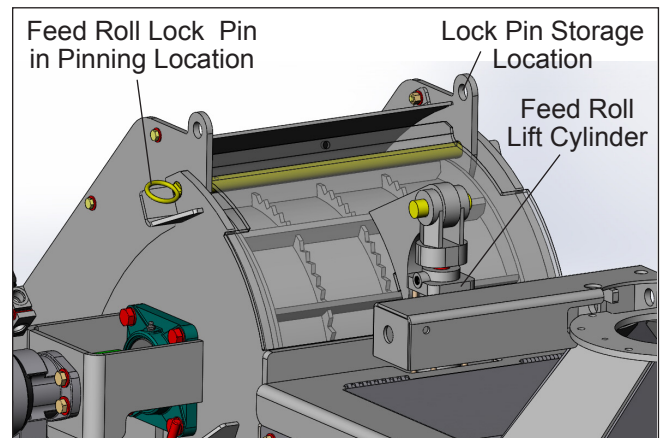

Figure 5.1 — Feed Roll Lock Pin
3. Install the upper feed roll lock pin into position (refer to Figure 5.1).